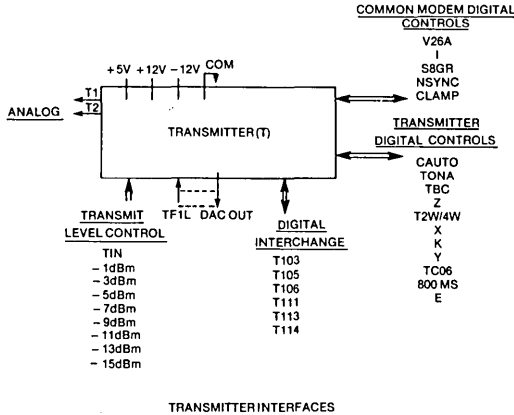

Figure 1
Figures 1 and 2 show the basic interface connections for the transmitter module (T) and the receiver modules (R1, R2). These diagrams are applicable for any operation mode of the modem—simplex, half-duplex, or full-duplex.